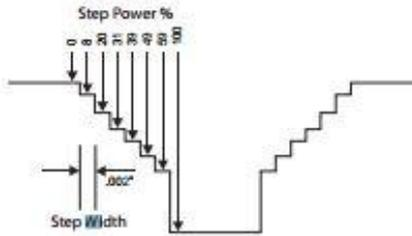

Figure 18: Power cut settings
29. Note that once a material has been selected, and a thickness has been applied, the power settings indicate how deep the laser will cut the material (Figure 18).